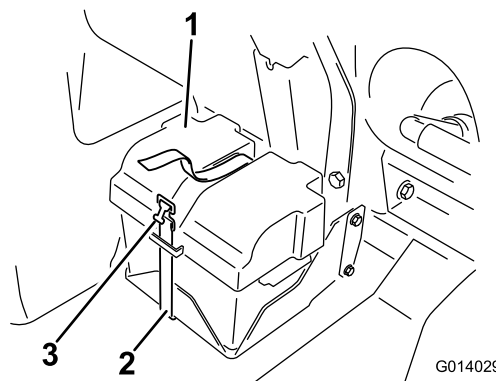

Figure 94
2. Remove the battery cover and disconnect the negative (black) ground cable from the battery post (Figure 94).
4. Install the battery cover and secure it with the strap that you removed previously (Figure 94).